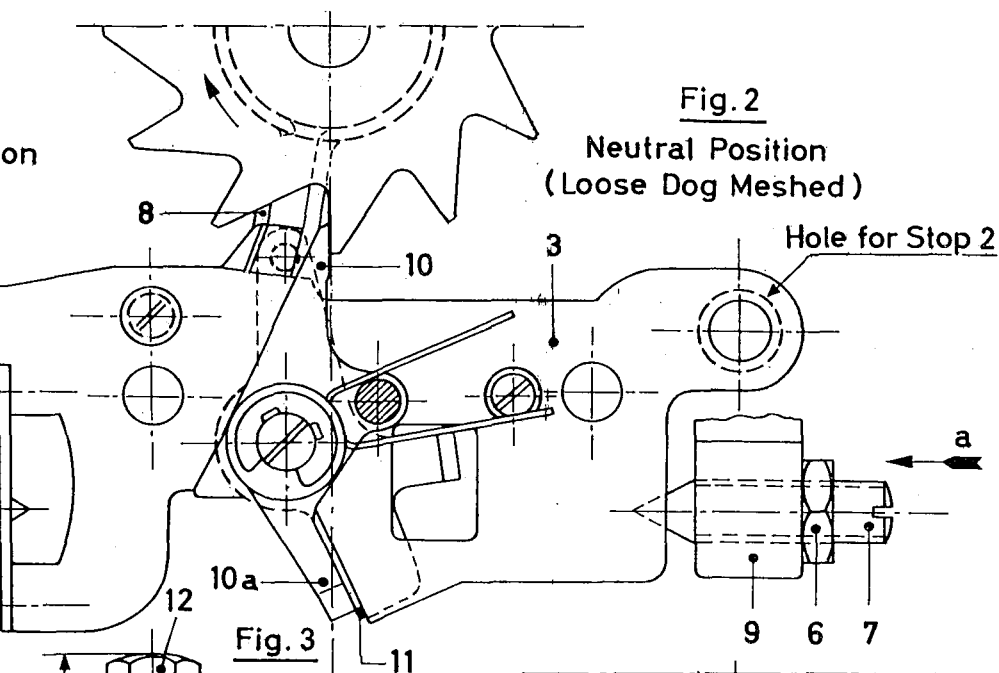

Fig. 2
- 1) Adjust escapement body (3) without perceptible play by adjusting bearing screws (7) in such a way that the loose dog (10) fully rests against the face of the tooth of the escapement wheel and that the offset end (10a) firmly presses damping spring (11) against the stop face of escapement body (3) - see fig. 2.
- 2) Adjust trip release by means of set screw (12) of escapement body (3) - see fig., release S.M. 400-1.